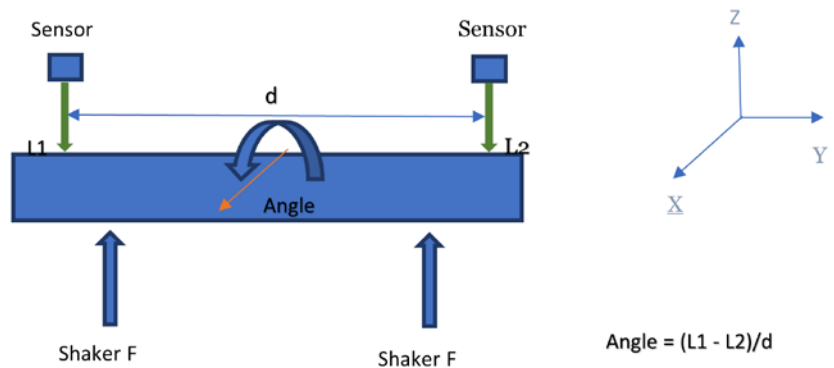

Figure 1.1
**Vertical with 2 displacement sensors.** Two displacement sensors are arranged to measure the two linear displacements. The angular displacement along the X-axis is derived from two displacement measurements. (Figure 1.1)